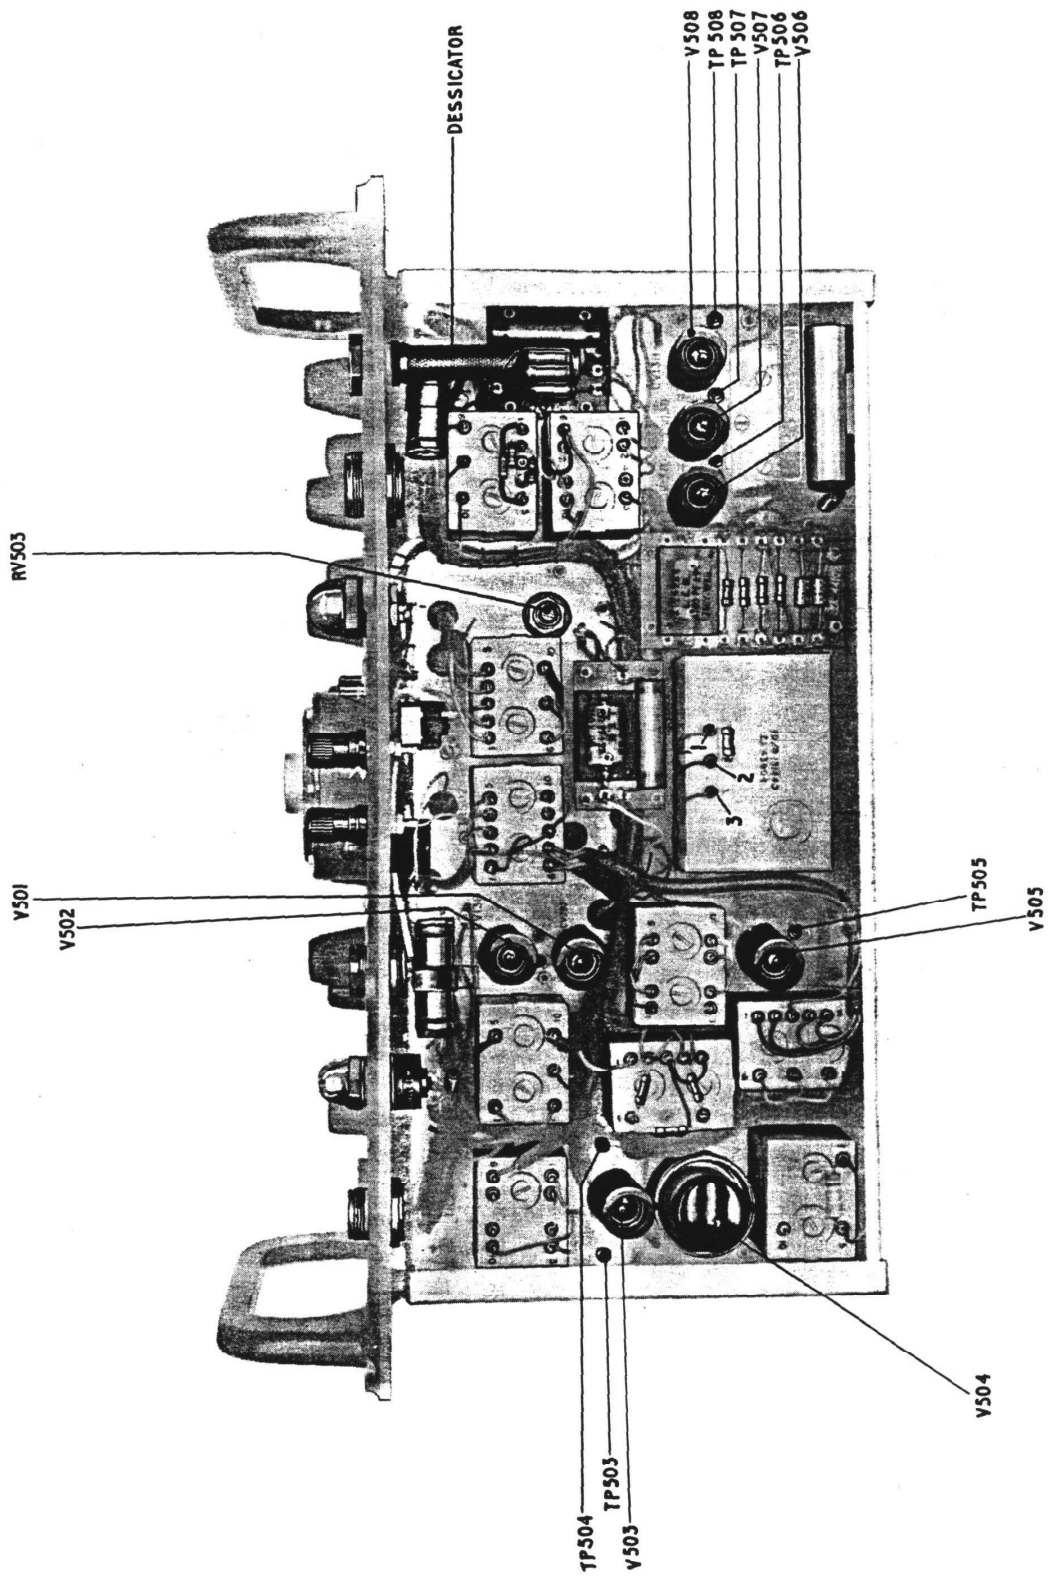

FIG. 24 LINE UNIT (R222)
- (1) Before opening the receiver case for a suspected line unit fault, check that the controls are correctly set and the carrier quad cable is connected.
- (2) Should the fault be diagnosed as definitely in the line unit, switch off the mains input at the SUR No. 23, and remove the unit from the case.
- (3) Switch on the mains at the SUR No. 23, allow five minutes to warm up and check potentials at the test points shown in Fig. 24 and Table 12.